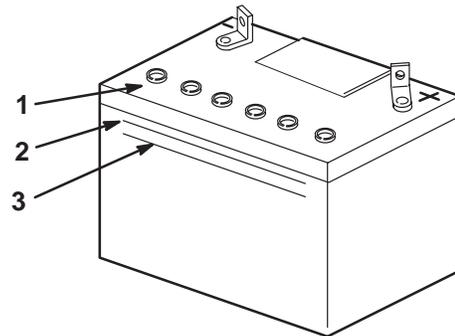

Figure 66
- Look at the side of the battery. The electrolyte must be up to the **upper** line (Fig. 66). Do not allow the electrolyte to get below the **lower** line (Fig. 66).
3. Remove the vent caps from the battery (Fig. 66).
4. Slowly pour distilled water into each battery cell until the level is up to the **upper** line (Fig. 66) on the battery case.
5. Wait five to ten minutes after filling the battery cells. Add distilled water, if necessary, until the electrolyte level is up to the **upper** line (Fig. 66) on the battery case.